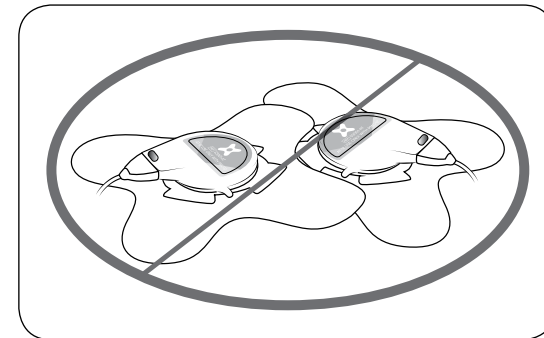

figure 6: NO Bandage Overlap
**Caution:** DO NOT overlap **sam** Ultrasound Coupling Bandages (Figure 6).